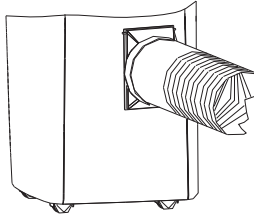

Fig. 10
11. Exhaust air duct & its accessories assembly finished as Fig.10 drawing illustrated.